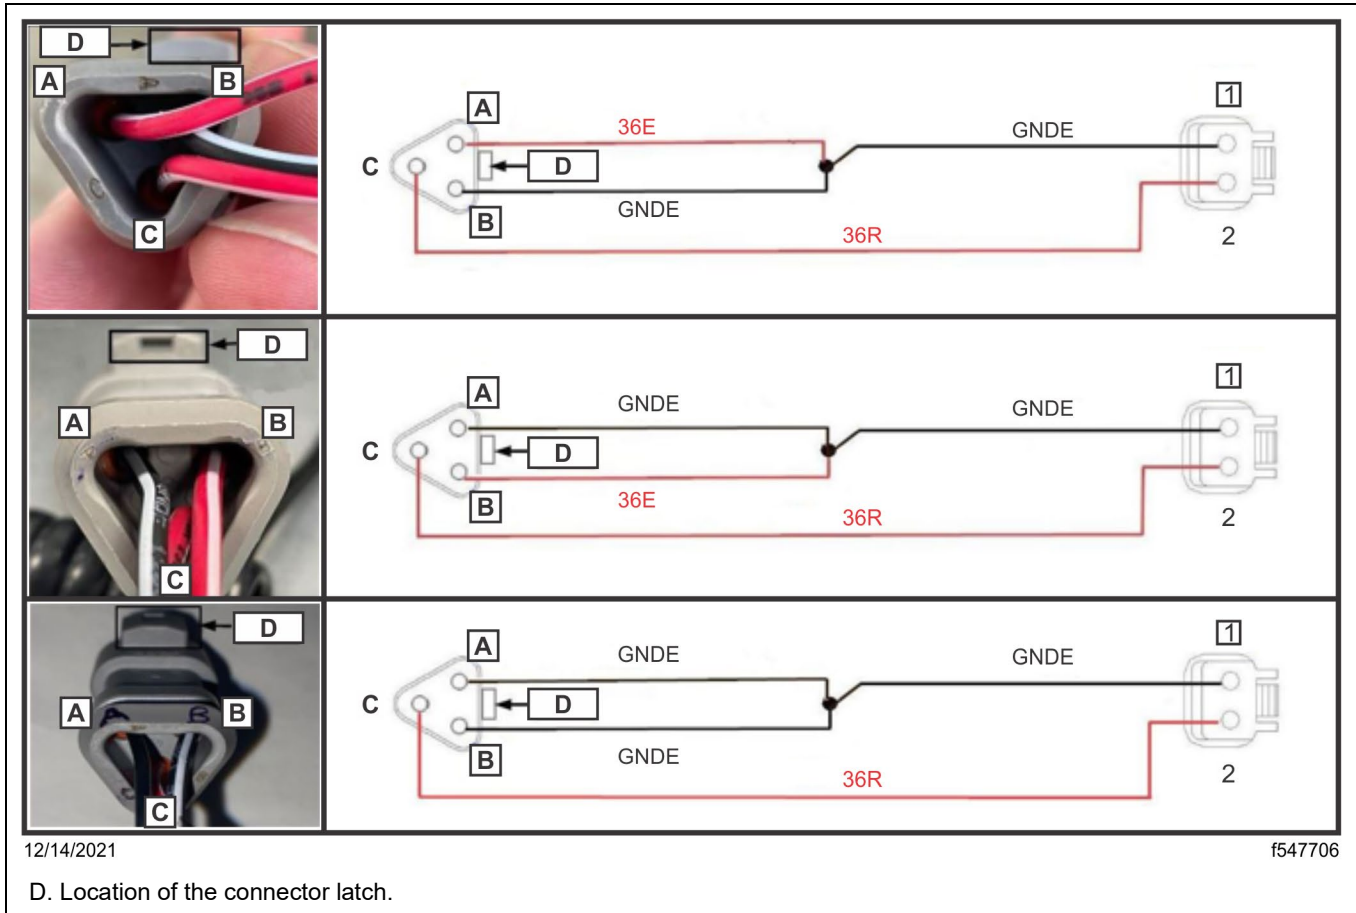

Fig. 5, Approved Jumper Harness
6. Install the jumper harness, as shown in Fig. 3, on the dash connector shown in Fig. 4, then connect it to the new 2-pin brake light pressure switch. See Fig. 5 for details of approved jumper harness variations.
If the brake light function is not correct, check that jumper harness matches the acceptable variations shown in Fig. 5, and is fully connected to the dash harness and to the brake pressure switch.